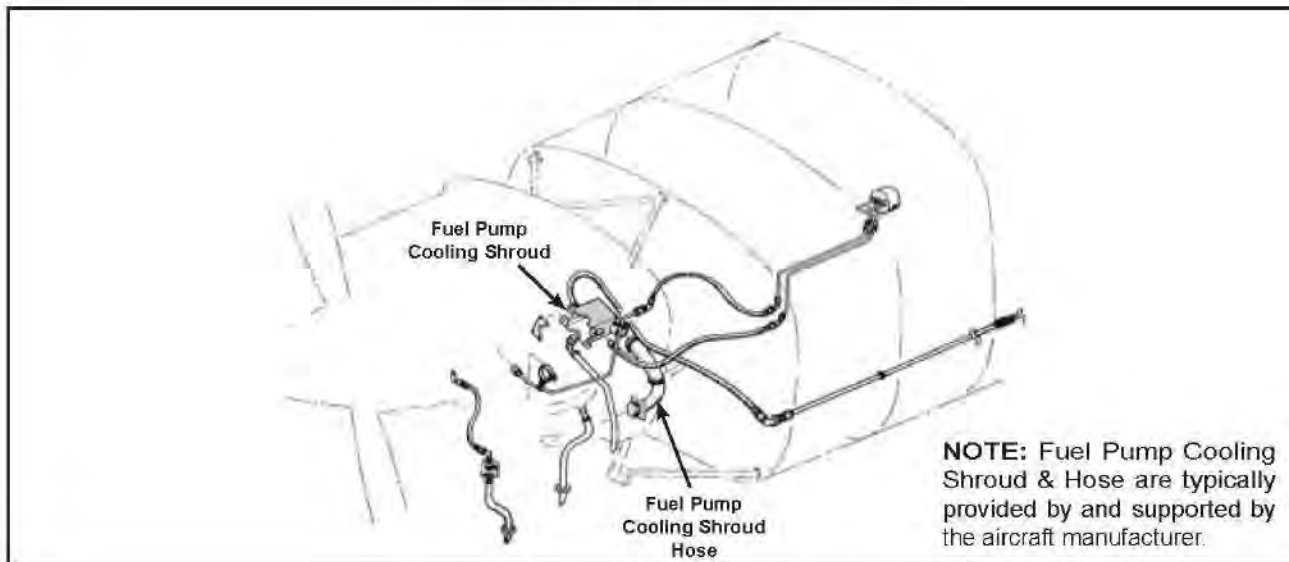

Figure 4 - Typical Cooling Shroud Installation
- (2) Inspection for fuel or blue dye stains may require use of a "Q" tip cotton swab or similar device to check for the presence of fuel or blue dye.
- (3) If fuel or blue dye stains ARE NOT found:
- (c) If removed, reinstall the fuel pump cooling shroud and air hose (if applicable) in accordance with the latest engine/airframe service instructions or maintenance manual and continue to 3.D.(1), Return to Service. Refer to Fig. 4.